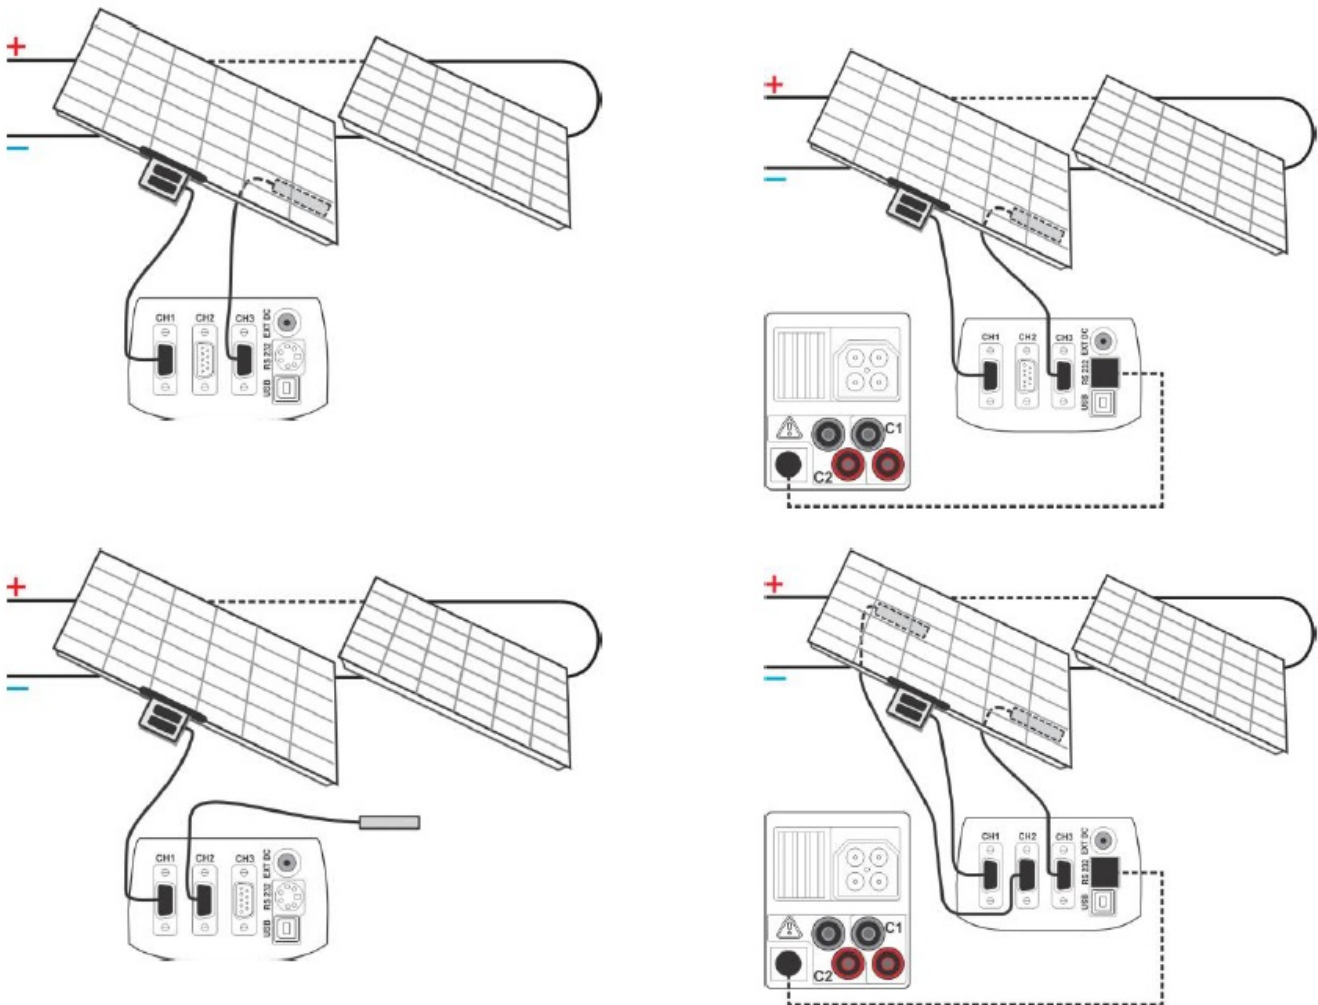

Figure 5-2: Measurement of environmental parameters
- Connect the probes to the item to be tested (see figure 5.2).